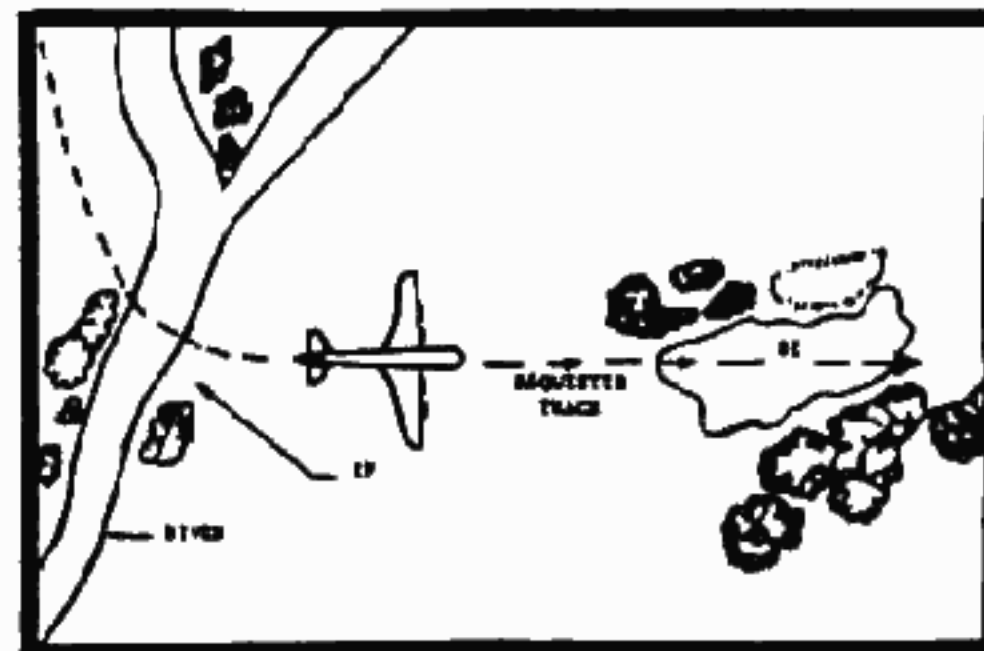

Figure 5. Relationship between IP and requested track
d. **Initial Points (IP's).** It is desirable to reconcile the requested aircraft track with an identifiable landmark that may be used by the aircrew as an initial point (IP). The IP, located at a distance of 5 to 15 miles (8-24 kilometers) from the DZ, is the final navigational checkpoint prior to reaching the target. Upon reaching the IP, the pilot turns to a predetermined magnetic heading that takes him over the DZ within a certain number of minutes (Figure 5). The following features constitute suitable IP's: